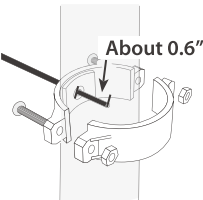

Figure 7
3. Slip the front plate on one end of the tubing (without mark), and insert the tubing into the drilled hole up to about 0.6" (Figure 7);